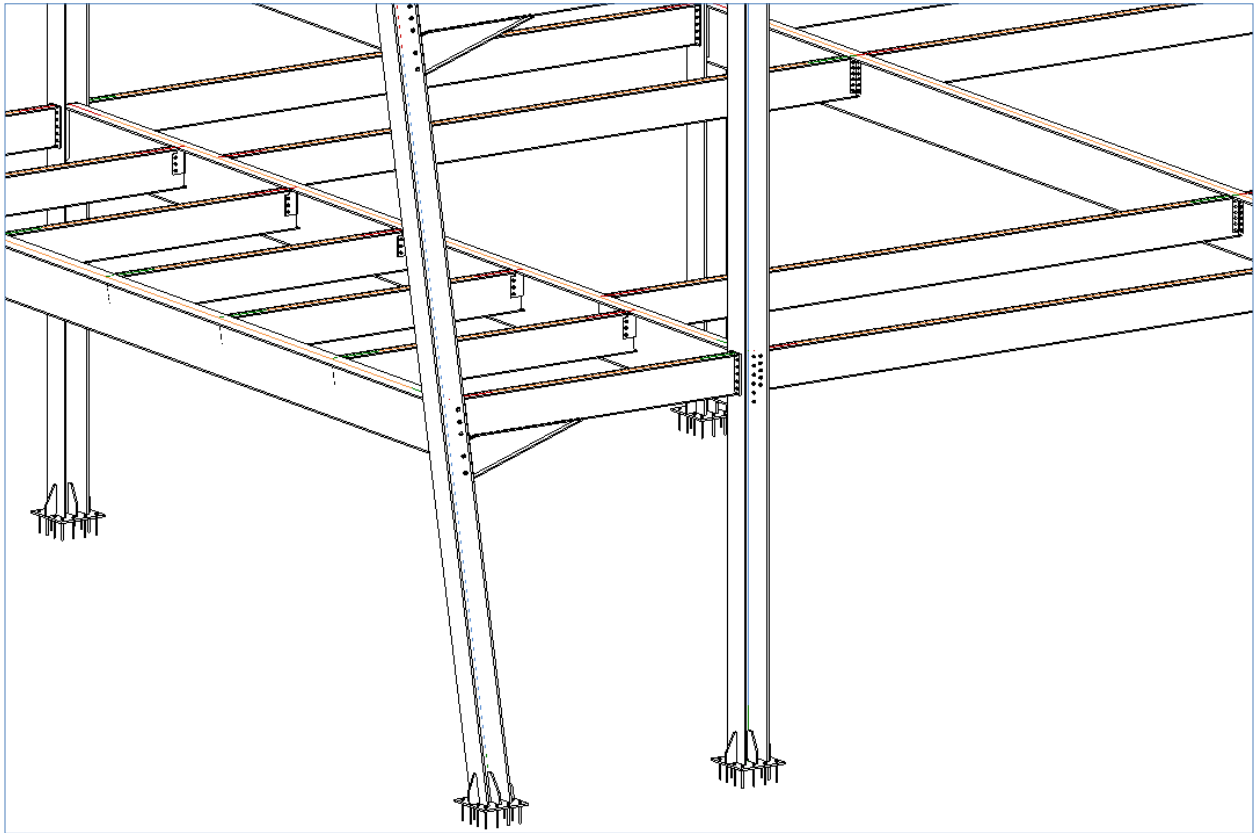

FIGURE 37: THE CONNECTION ELEMENTS DISPLAYED AFTER TURNING THEIR VISIBILITY ON
6. Navigate close to various joints and notice the connection elements in the model. Figure 37 shows a zoomed in view of the model showing various connections.